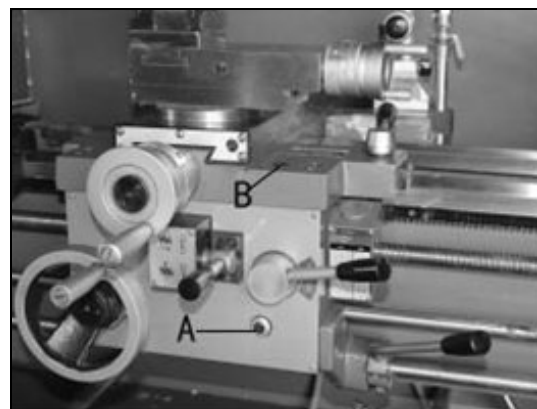

Figure 6-3
5. **Apron** – Oil must be up to indicator mark in oil sight glass (A, Figure 6-3). Top off with Mobil DTE® Oil Heavy Medium. Fill by removing oil plug (B, Figure 6-3). After the first three months of operation, drain oil completely (drain is on bottom of apron) and refill with Mobil DTE® Oil Heavy Medium, or equivalent to the indicator line. Then, change oil annually.